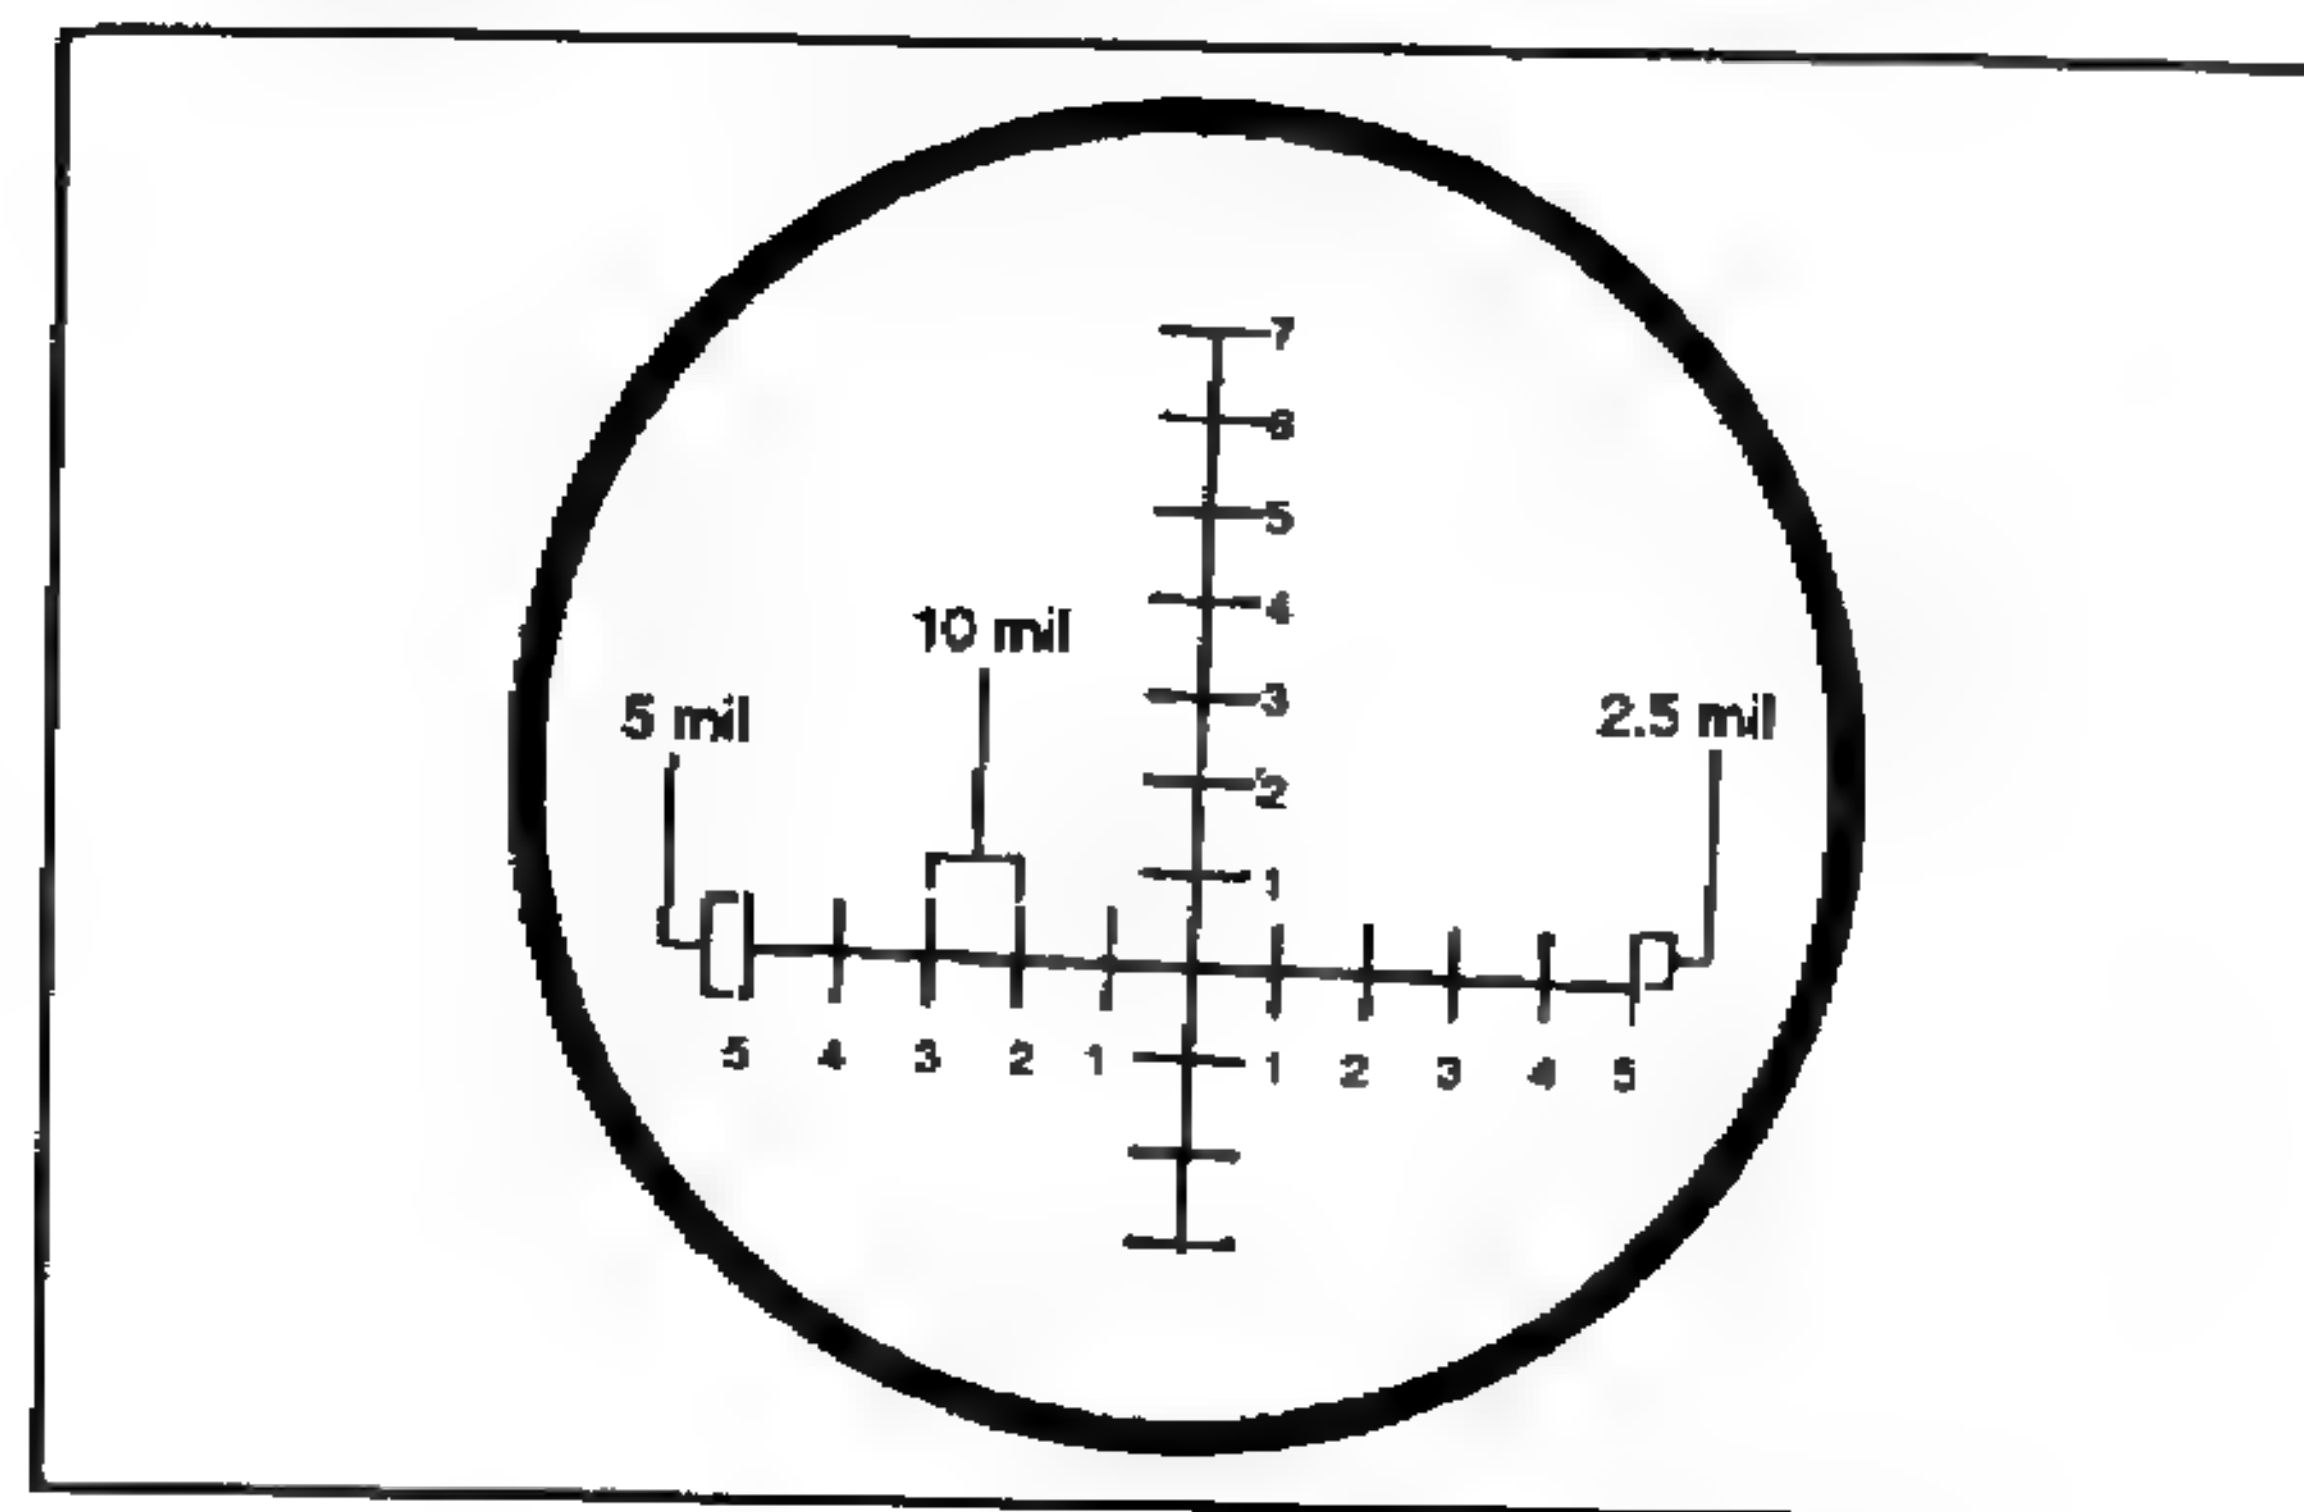
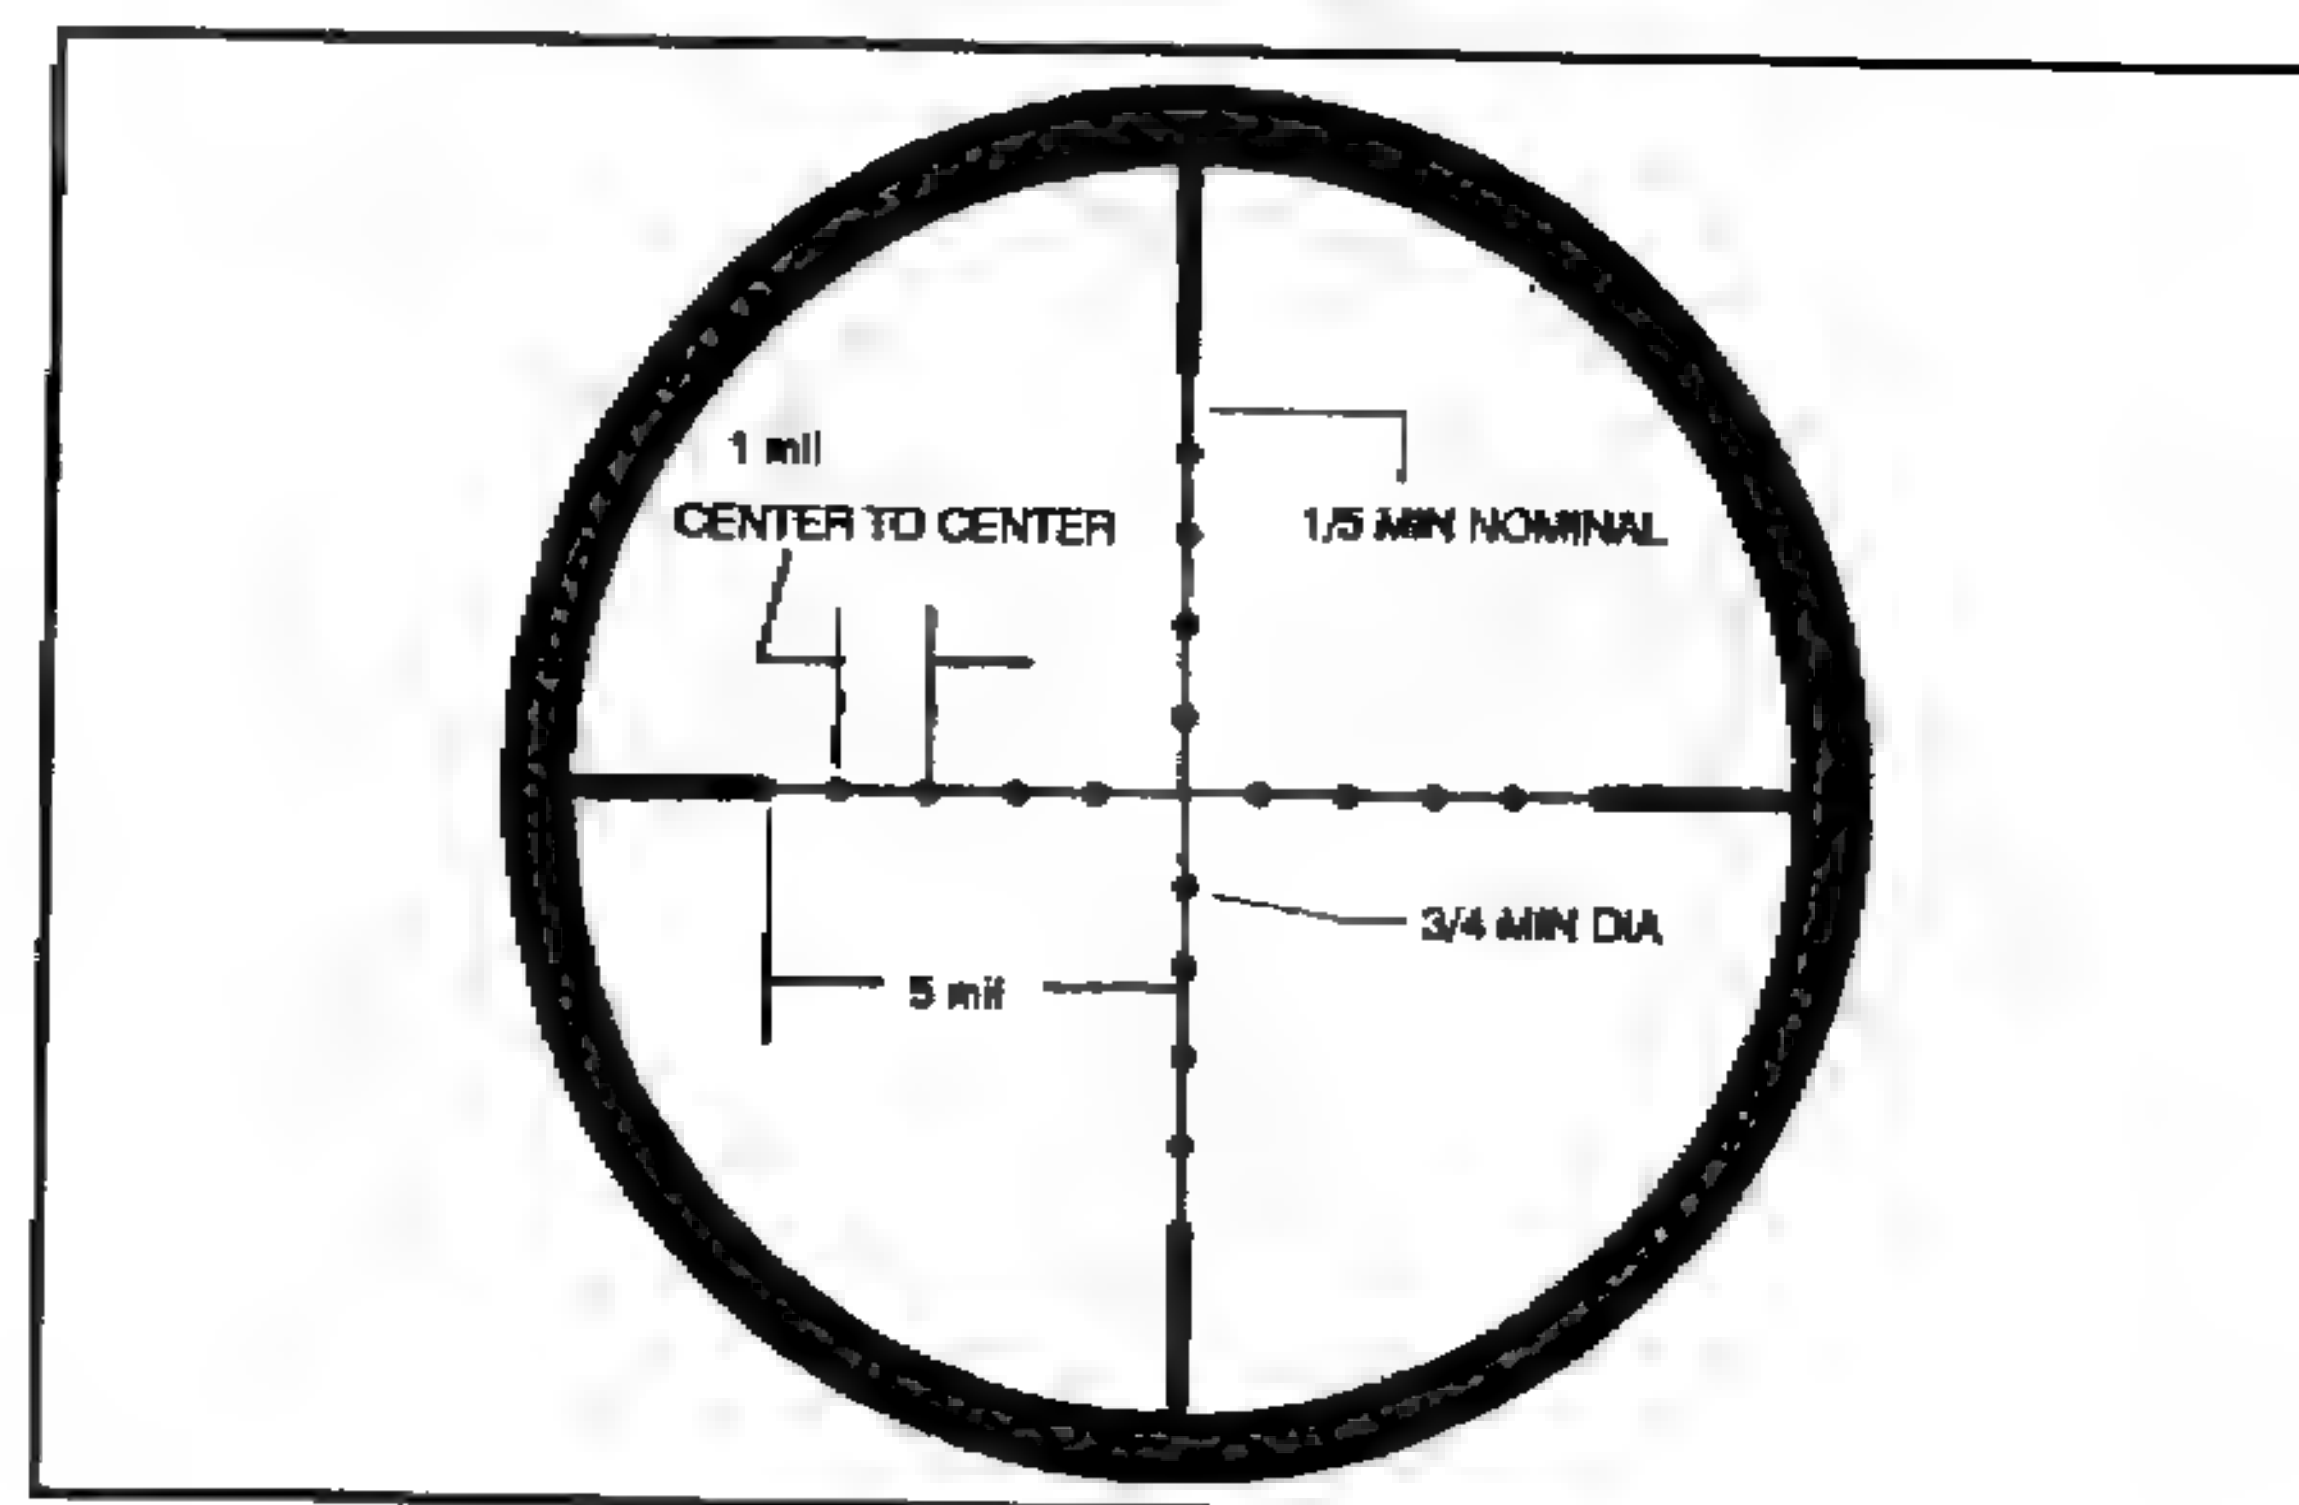

Figure 4-19. M19 mil-scale reticle.
Figure 4-20. M3A mil-scale reticle.
f. **Mil-Relation Formula.** The mil-relation formula is the preferred method of range estimation. This method uses a mil-scale reticle located in the M19 binoculars (Figure 4-19) or in the M3A sniperscope (Figure 4-20). The team must know the target size in inches or meters. Once the target size is known, the team then compares the target size to the mil-scale reticle and uses the following formula: